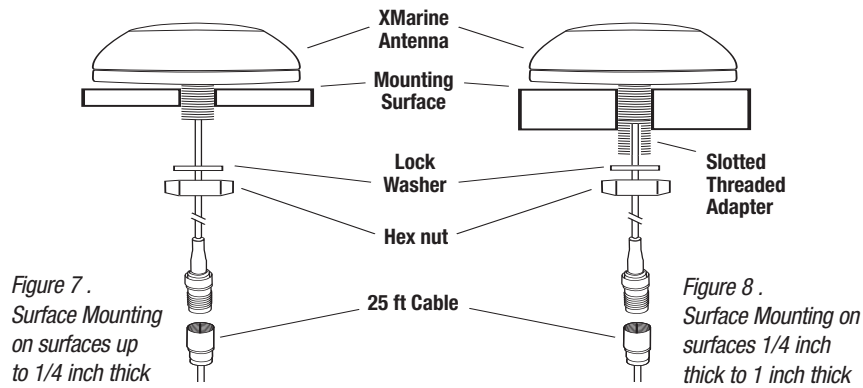

Figure 7 .
4. Attach the 25 foot coax cable to the 6 inch antenna cable by connecting the TNC connectors securely. See figures 7 and 8 on the next page.